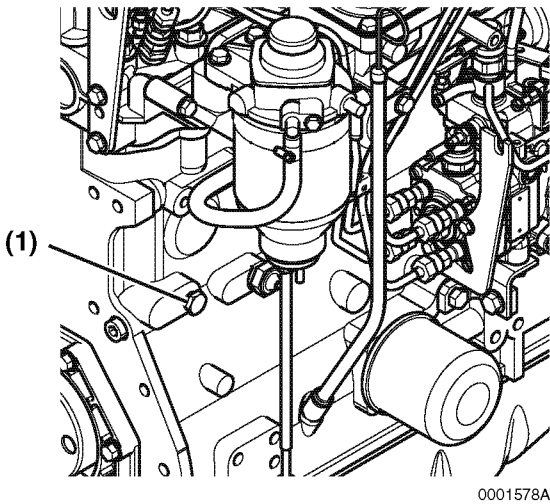

Figure 8-5
- Drain the coolant from the engine block. Remove the coolant drain plug (**Figure 8-5, (1)**) from the engine block.